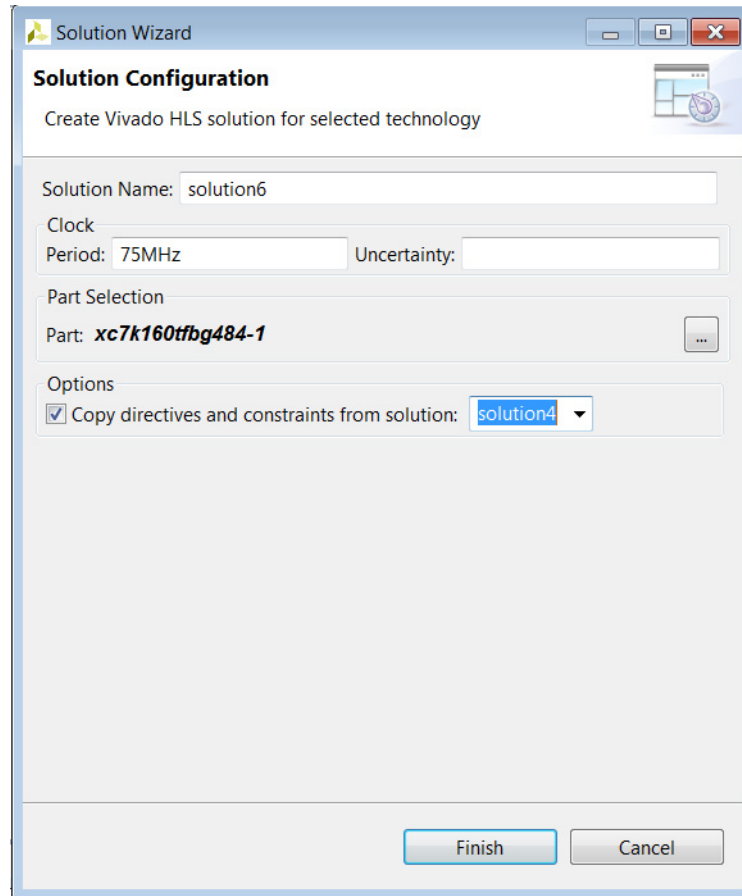

Figure 7-18: New Solution Based on Solution4 Directives
2. Select **solution4** from both the drop down menus in the **Options** section. The Solution Wizard appears as shown in Figure 7-18.